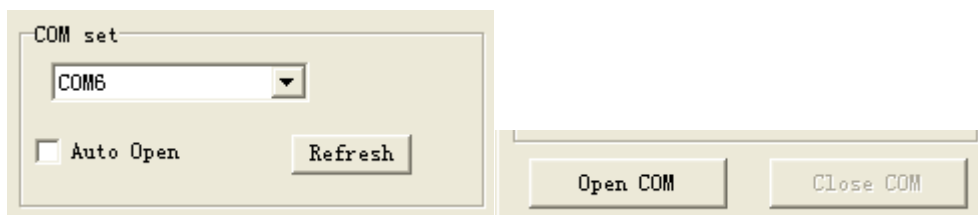

Fig. 2
1. Click the function diagram of "serial port settings", the interface is shown as in Fig. 2.